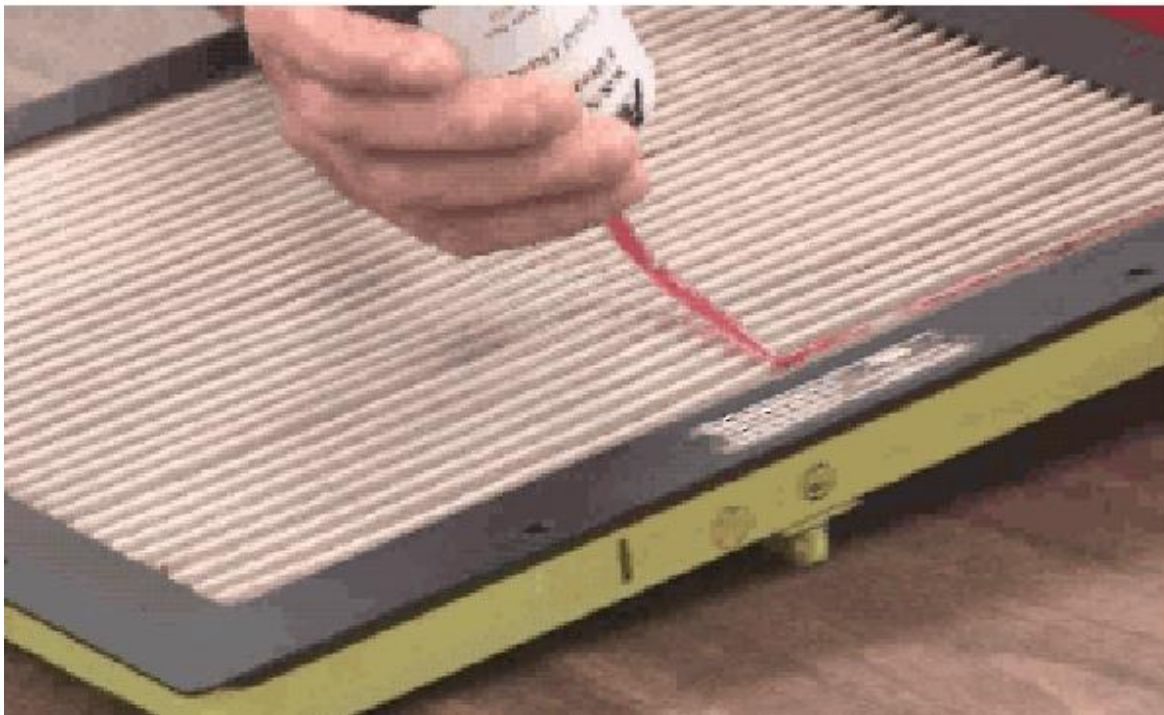

Figure 7: OILING MEDIA
- a. The filter will not function properly if other types of oil are used. DCI Air Filter Oil is a unique blend of mineral and organic oil base stocks and special polymers that form a very efficient “tack barrier.” Red dye is added to show areas of oil application. Do not use transmission fluid, any kind of motor oil, or diesel fuel to oil the DCI filter. Do not use “WD-40,” “LPS,” or any other type of lightweight spray lubricants to oil the DCI filter. Any of those products will damage the filter or degrade its filtering ability. A squeeze bottle allows for the controlled application of a specific amount of oil to the filter (See Figure 7).